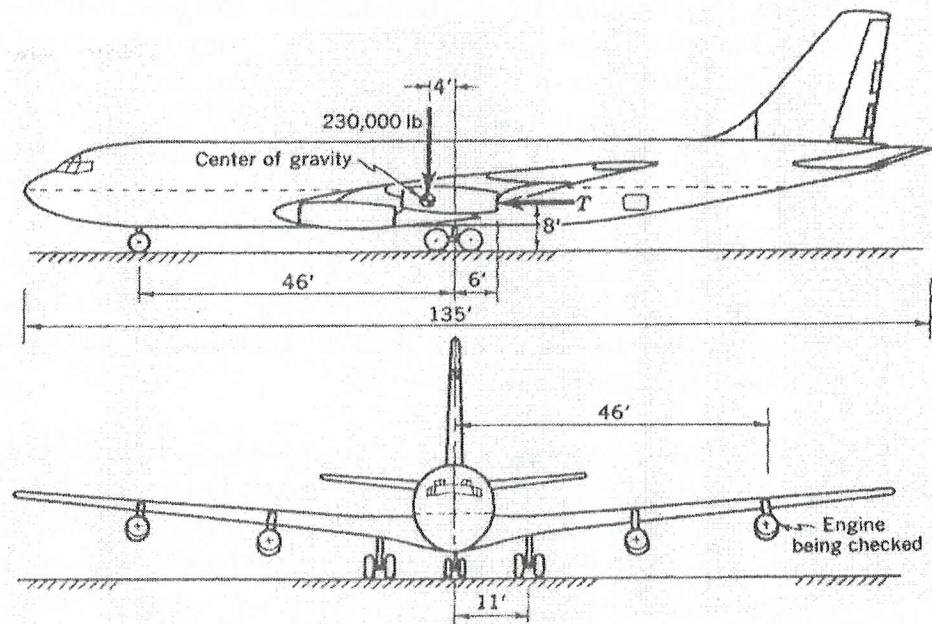

Figure 1/Gambarajah 1
1. A four-engine jet transport, which weights 230,000 lb fully loaded, has its center of gravity at the location shown in the sketch. Before taking off for Europe the pilot must test the engines by operating them, one at a time, at a thrust of about 8,000 lb. As he checks the left outboard engine, the other three engines idle at negligible thrust. The rear-wheel brakes are locked during the test, but the nose wheel has no brakes. In addition the nose wheel is mounted on a caster, so it cannot resist a sidewise force. (See Figure 1).